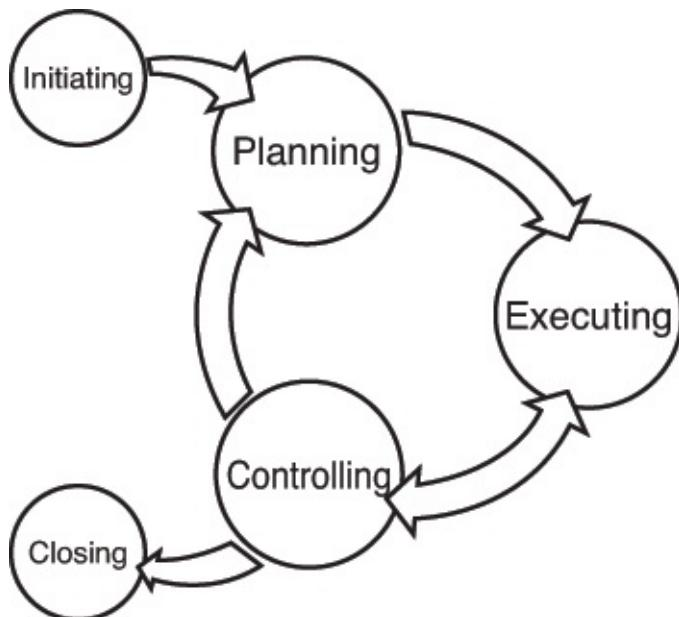

Figure 5.1. Highlights the interactions between the planning, executing, and controlling project management processes.
- **Purpose**—The purpose of project planning is to develop a plan that enables the project to be executed and controlled, as shown in Figure 5.1.